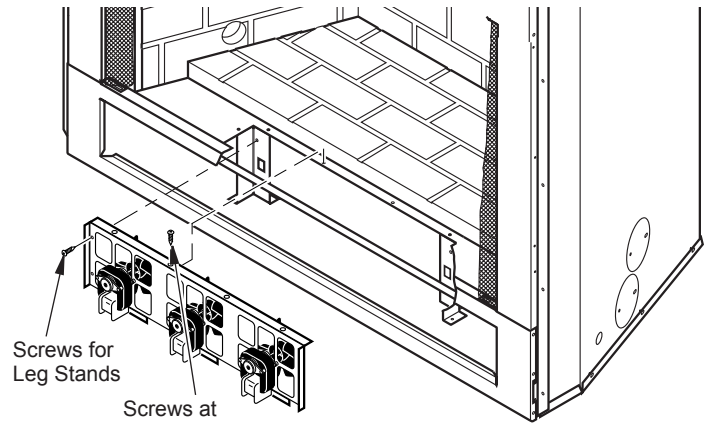

Figure 4 - Mounting Blower
6. Place fan assembly with blades pointing towards rear of fireplace and in between two leg stands. See Figure 4.
7. Using 2 of the screws provided, fasten upper flange of blower bracket to hearth pan. Fasten end flanges to leg stands with remaining 4 screws. See Figure 4.